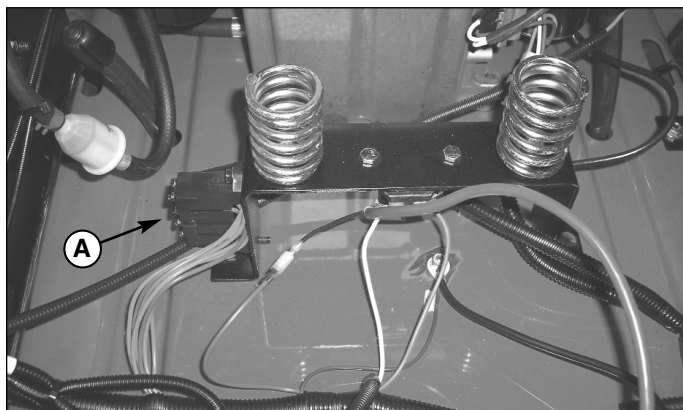

Figure 36. Fuse Replacement
2. Raise the seat. The fuse block (A, Figure 36) is located on the right side of the rear seat support.